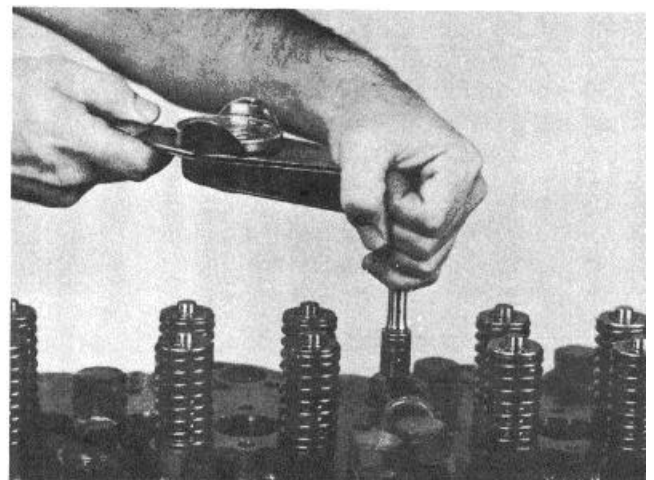

Fig. 14-27 (N114258). Tighten The Screws For The Fuel Crossover.
3. Install the screws. Tighten the screws to 34 to 38 in.-lbs. [3.8 to 4.3 N•m] torque, Fig. 14-27.